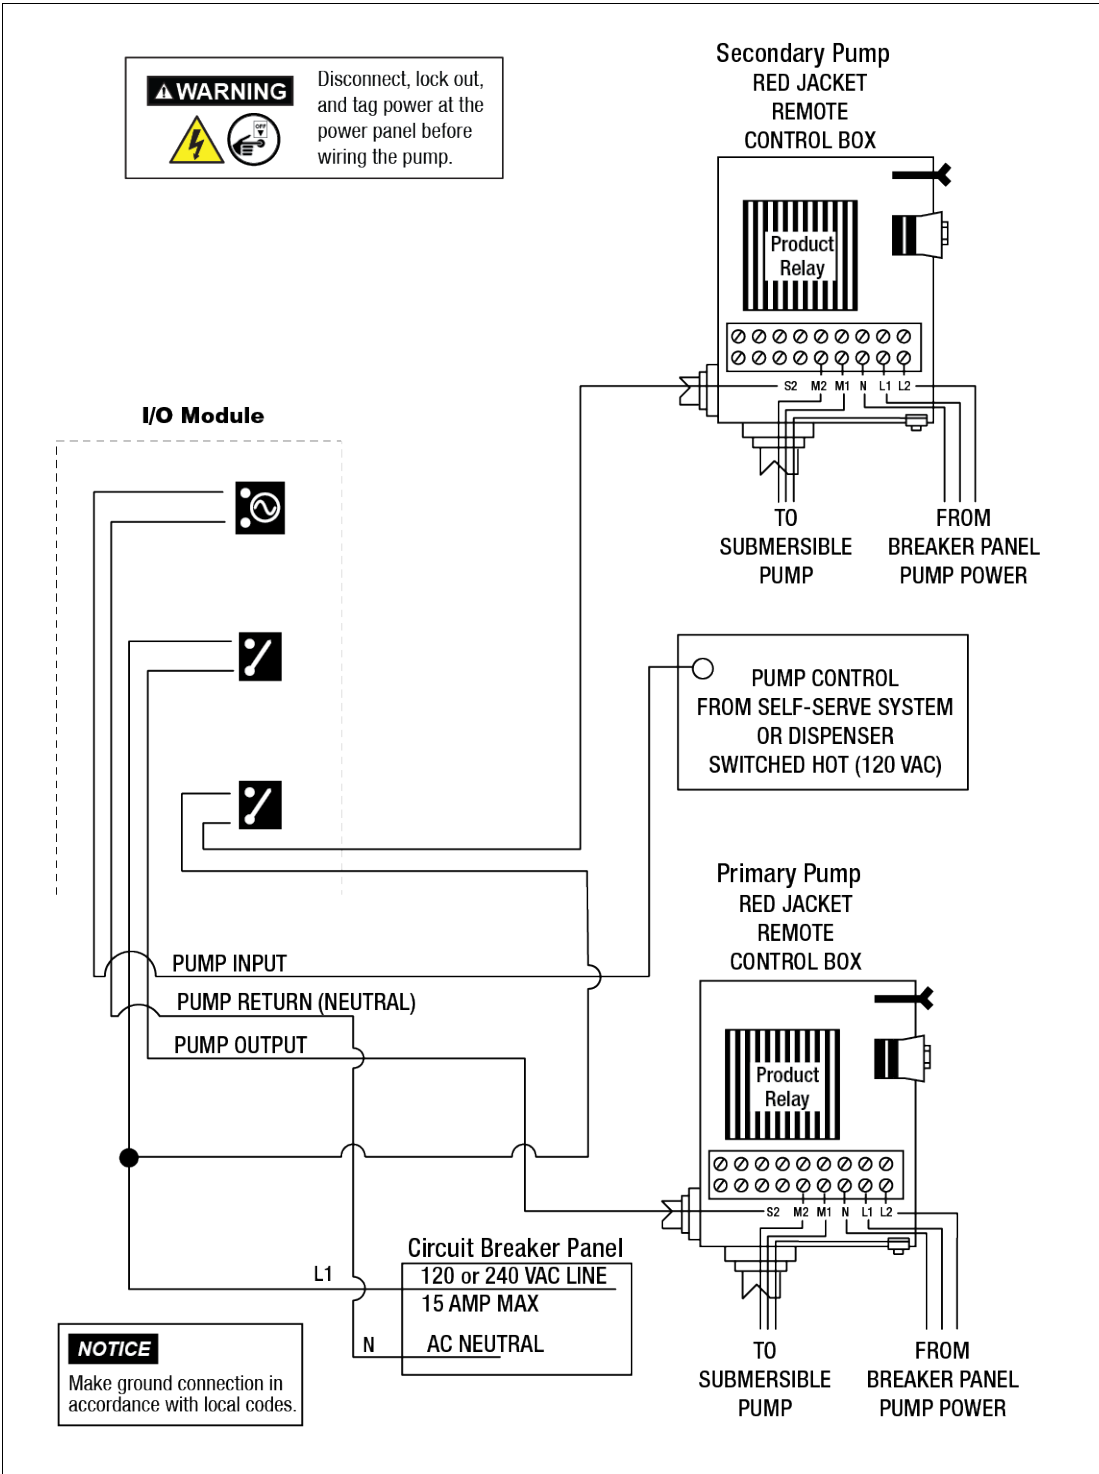
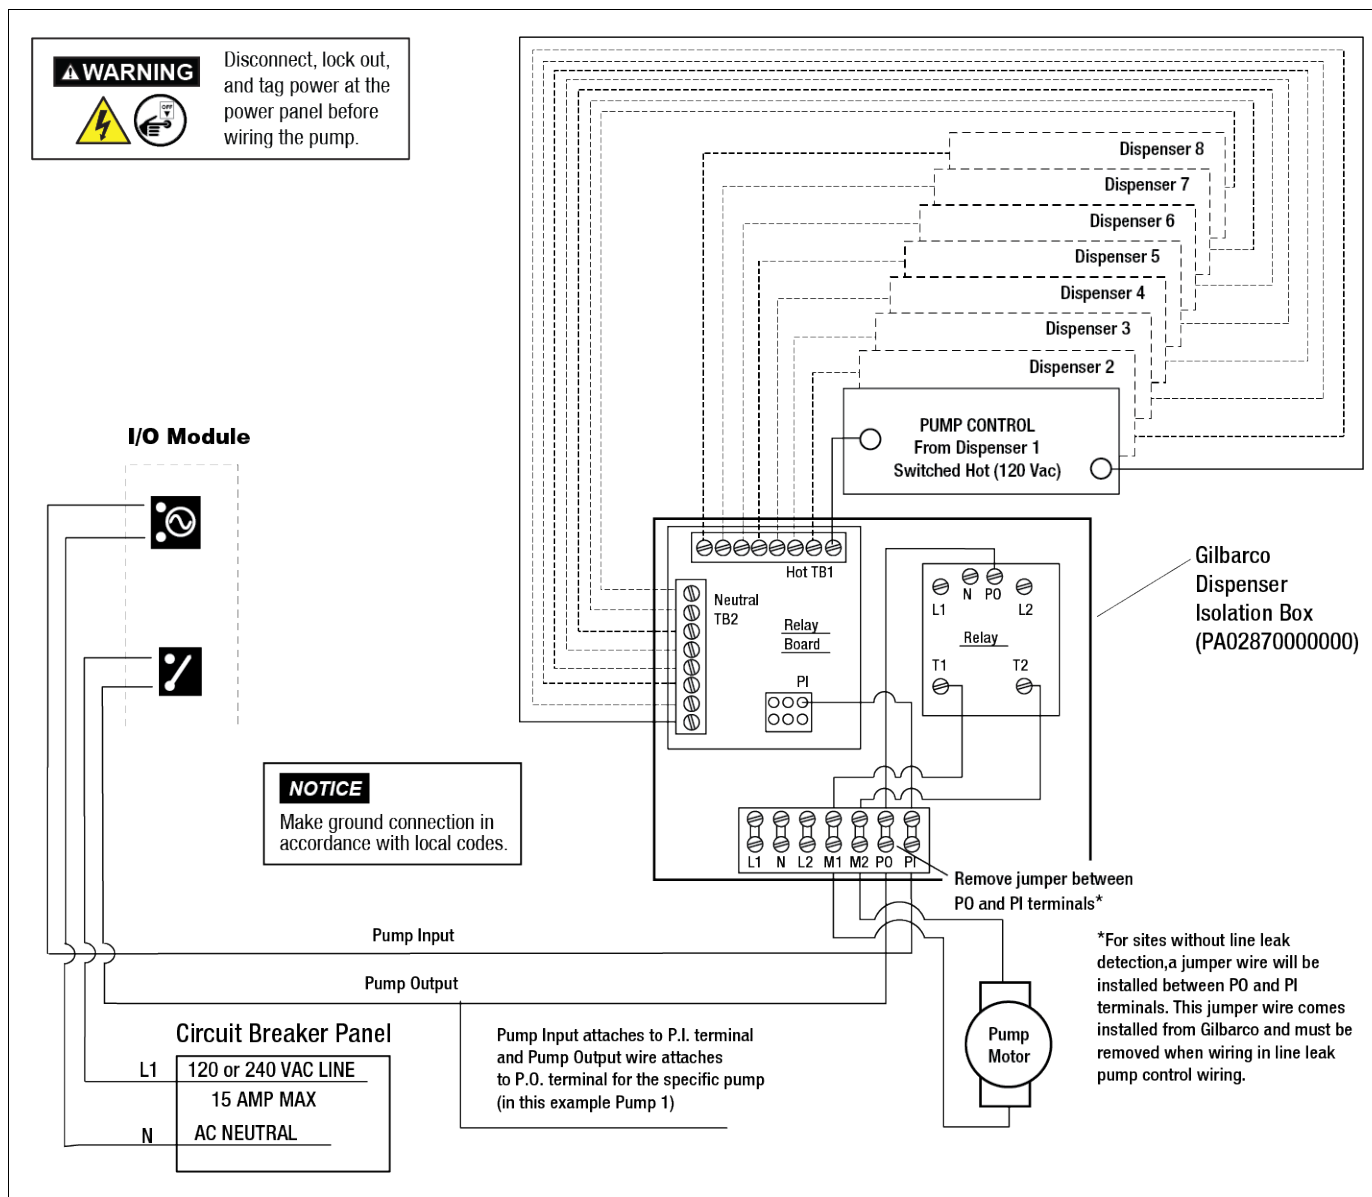
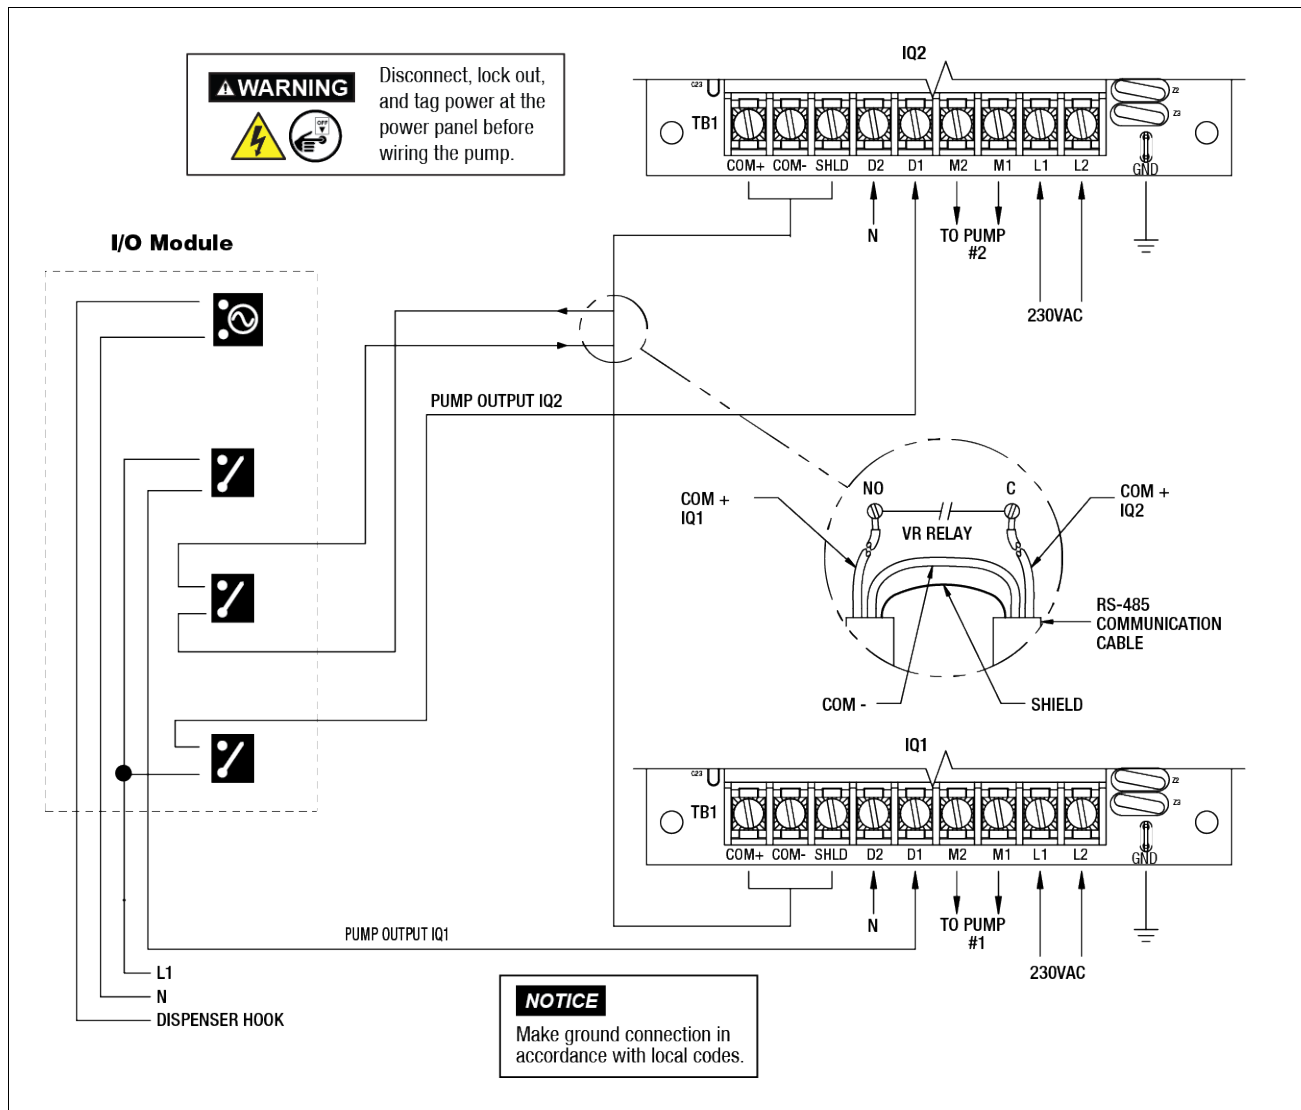

Figure 24. Wiring Diagram - Manifolded Lines DPLLD - Multiple Tanks (RJ Relay Control Box Shown In This Example)
Figure 25. DPLLD Pump Control Diagram For Gilbarco Dispenser Isolation Box
Figure 27. Manifolded Product Lines - Dual Red Jacket IQ Controllers
- Manifolded tanks (ref. Figure 24, Figure 25, and Figure 27)
- Gilbarco dispenser isolation box (ref. Figure 25)